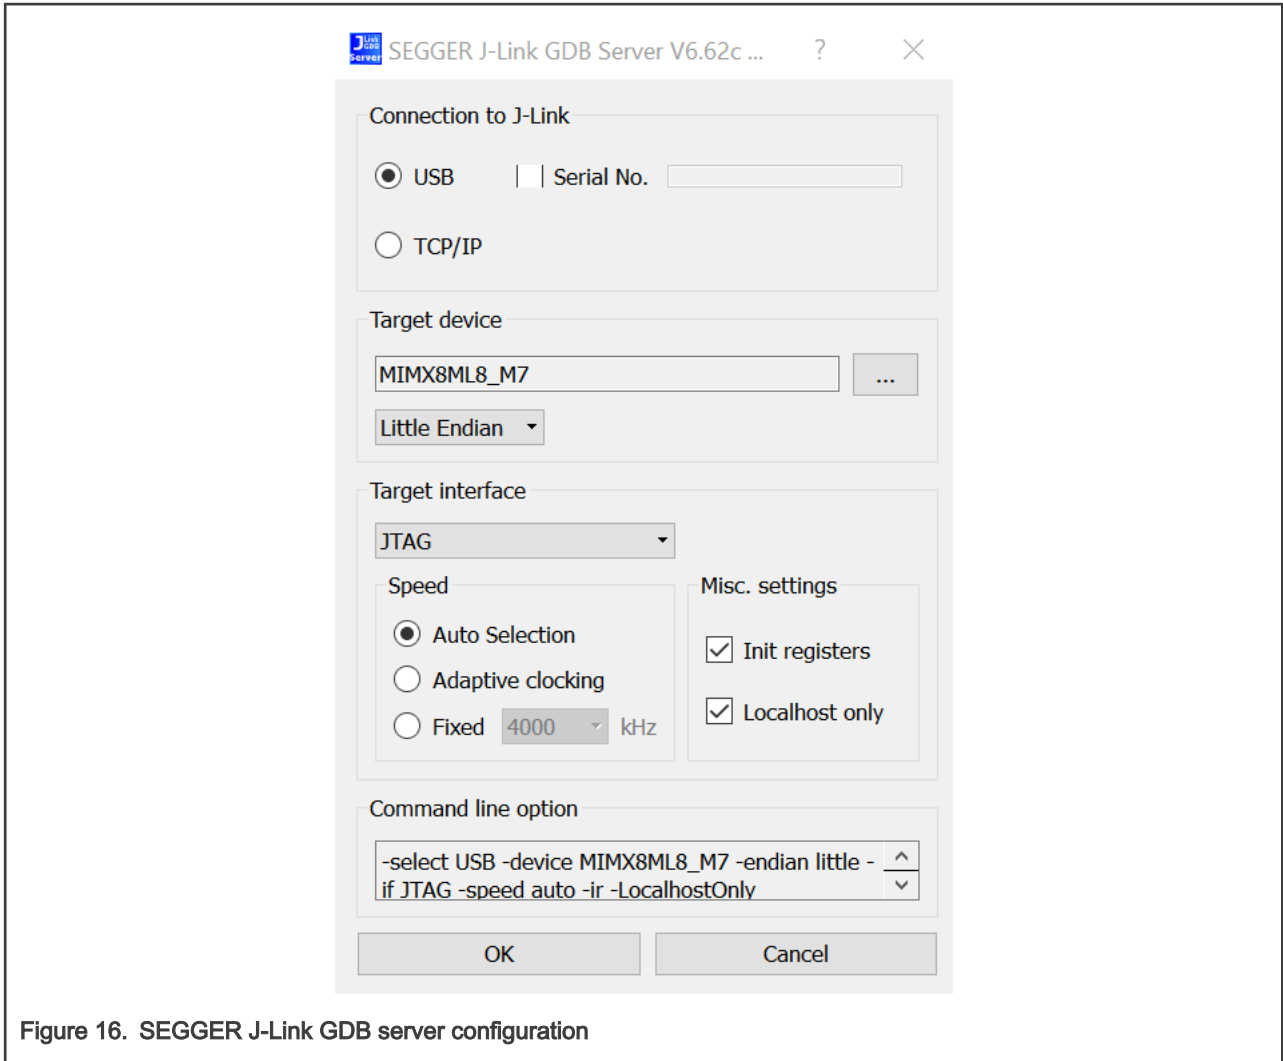

Figure 16. SEGGER J-Link GDB server configuration
4. Modify the settings as shown in Figure 16. The target device selection chosen for this example is MIMX8ML8_M7 .